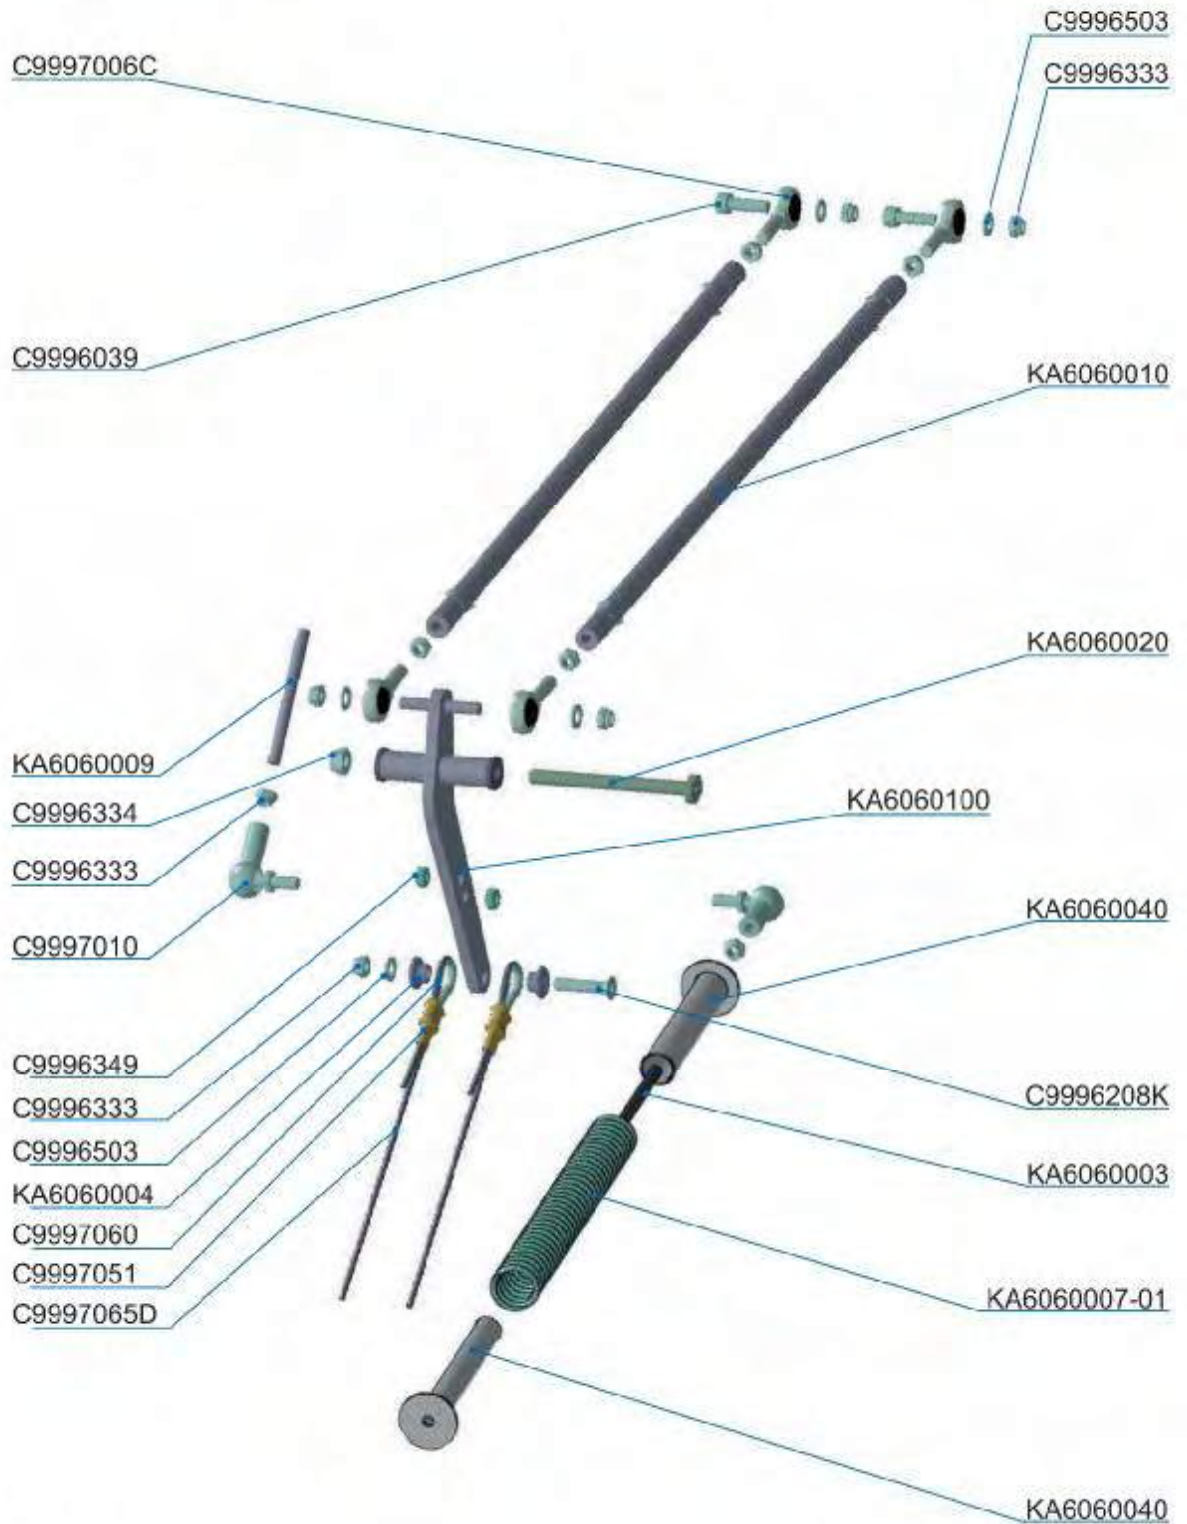
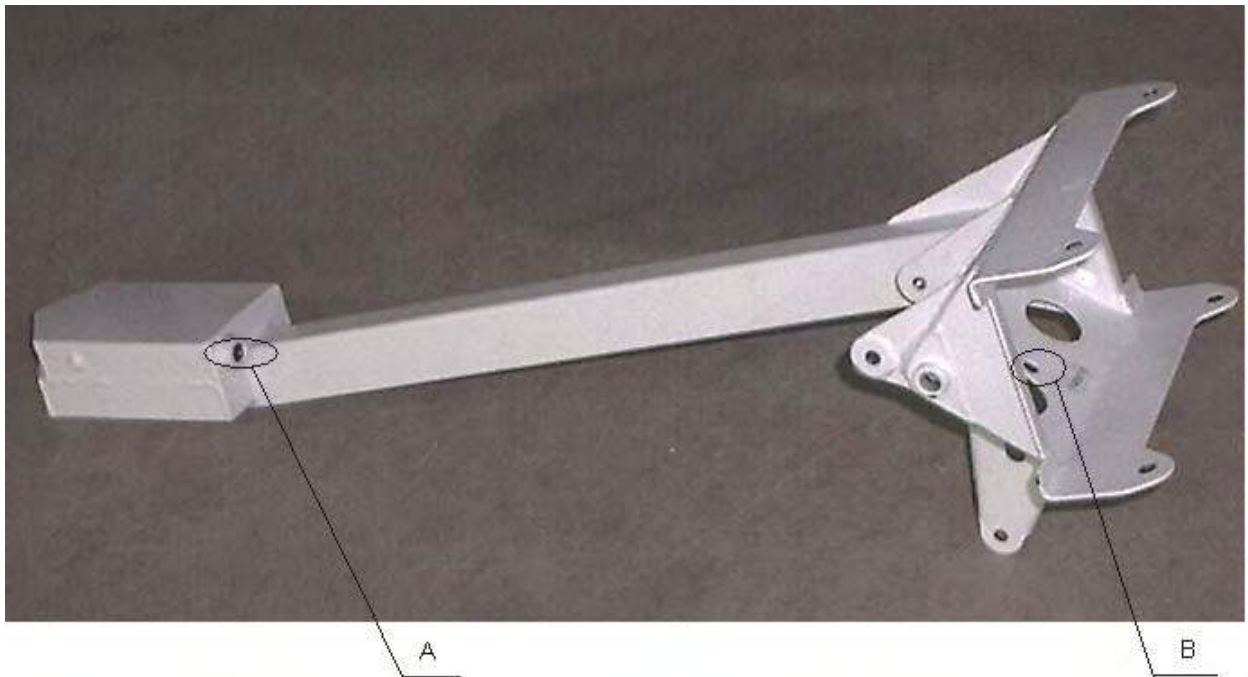

Fig. 3
Fig. 4
12. Install the trim tab stop KA6060009 into the second from the bottom hole of the trim tab control bellcrank KA6060100 (Fig. 3). Make sure that within entire range of angles of deflection of the stabilator and trim tab the tab stop KA6060009 (Rod) runs out the stabilator bracket into the hole B (Fig. 4) at least 3/16 in. / 5 mm.
13. Connect the trim tab control cables C9997065F (Fig. 3) by bolts C9996208K (Bolt DIN 7991 M5x25-8.8). Make sure of clearance 1/25" – 2/25" (1-2 mm) between thimble C9997060 (Thimble 2 mm) and sleeve C9997051 (Nicopress oval sleeve 1.5-1.7 mm for 1.6 mm cable). As the bolt is set and screwed into the bellcrank, the nuts C9996333 (Self-locking nut DIN 985-M5, regular) are tightened to 49lb-in (5.5 N\*m), check that the thimble C9997060 (Thimble 2 mm) should rotate freely KA6060004 Bush. Otherwise replace KA6060004 Bush.
- The axle of rotation of C9997010 (Angle joint M5) is locked by the nut C9996333 (Self-locking nut DIN 985-M5) after screwing it into the bellcrank KA6060100 (Fig. 3).